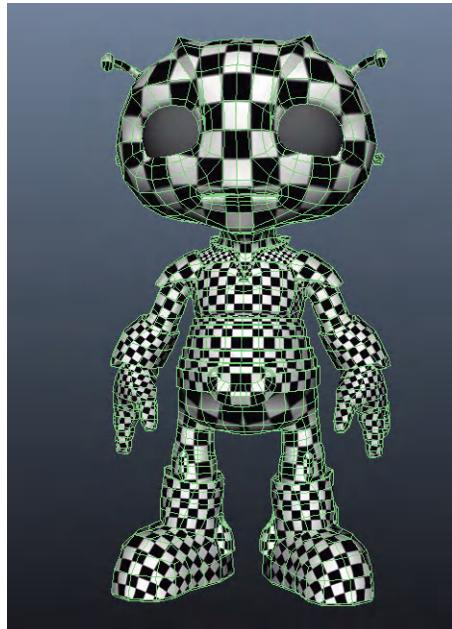

FIG 5.54 Mirrored mesh – notice that the checkers are all mirrored as well.
Step 33: With one half of the character selected, choose Polygons|Mesh > Mirror Geometry (Options). Change the Mirror Direction to be -X and click mirror (Fig. 5.54).